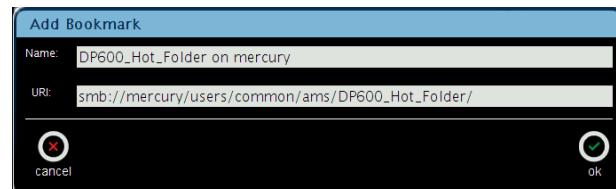

Figure A-10 Add Bookmark Screen
7. Enter a unique name for your bookmark in the **Name** field, as shown in Figure A-10, then click **ok**.